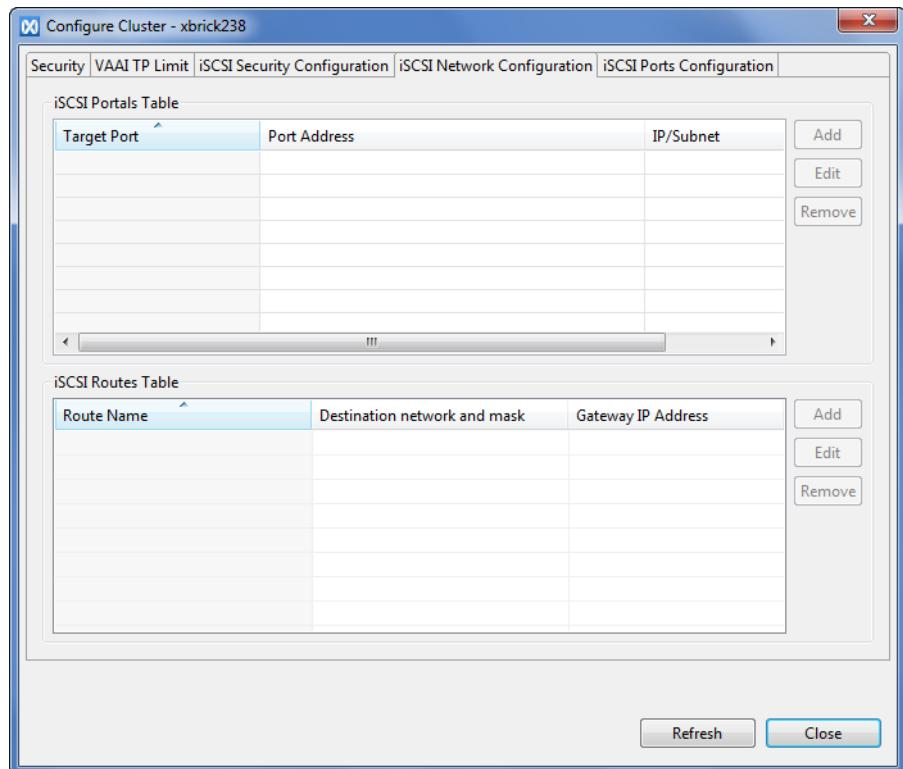

Figure 212 Configure Cluster - iSCSI Network Configuration Tab
5. In the Configure Cluster Dialog box, click the **iSCSI Network Configuration** tab; the iSCSI Network Configuration screen appears, as shown in Figure 212.
5. In the Configure Cluster dialog box, click the **iSCSI Network Configuration** tab; the iSCSI Network Configuration screen appears, as shown in Figure 212.